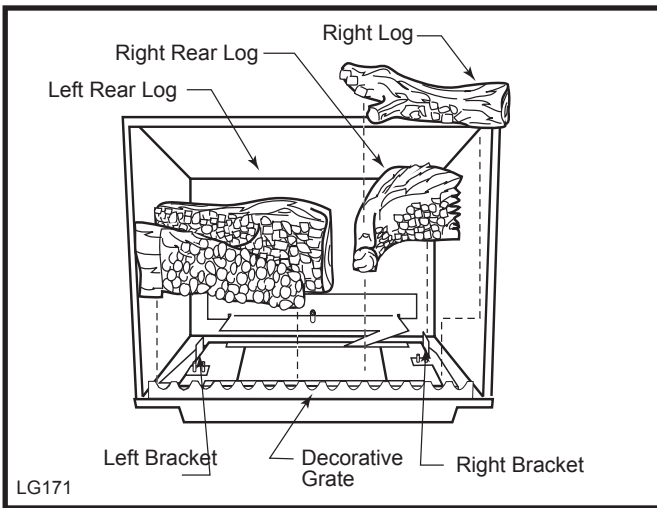

Fig. 22 Install the left and right rear logs and the right log.
2. Install the rear left log by placing it on the sheet metal shelf at the back of the firebox. (Fig. 22) The log should touch the back wall of the firebox. Slide the log to the left until the left side lines up with the left bracket. (Fig. 22) When the log is in place the left front corner of the log should rest on the decorative grate.
3. Install the rear right log by placing it on the sheet metal shelf at the back toward the right. Make sure the right side of the log lines up with the right bracket. (Fig. 22) **NOTE:** When the right and left rear logs are in place, they should touch the back of the firebox and each other.
4. Install the right log by engaging hole on the bottom with pin on the right rear log. (Fig. 22) Set the bottom of the log on the bracket and bring forward to come in contact with decorative grate on right.